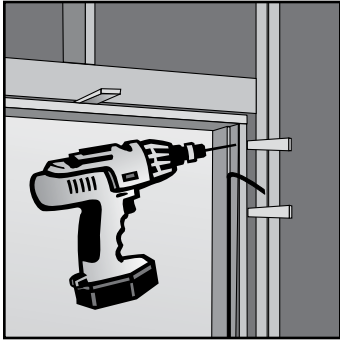

Fig. 24
- A. SYSTEMS 1, 2 & 3 - Fasten using 3" screw through top and bottom pre-drilled anchor holes behind weatherstrip (**Fig. 24**).